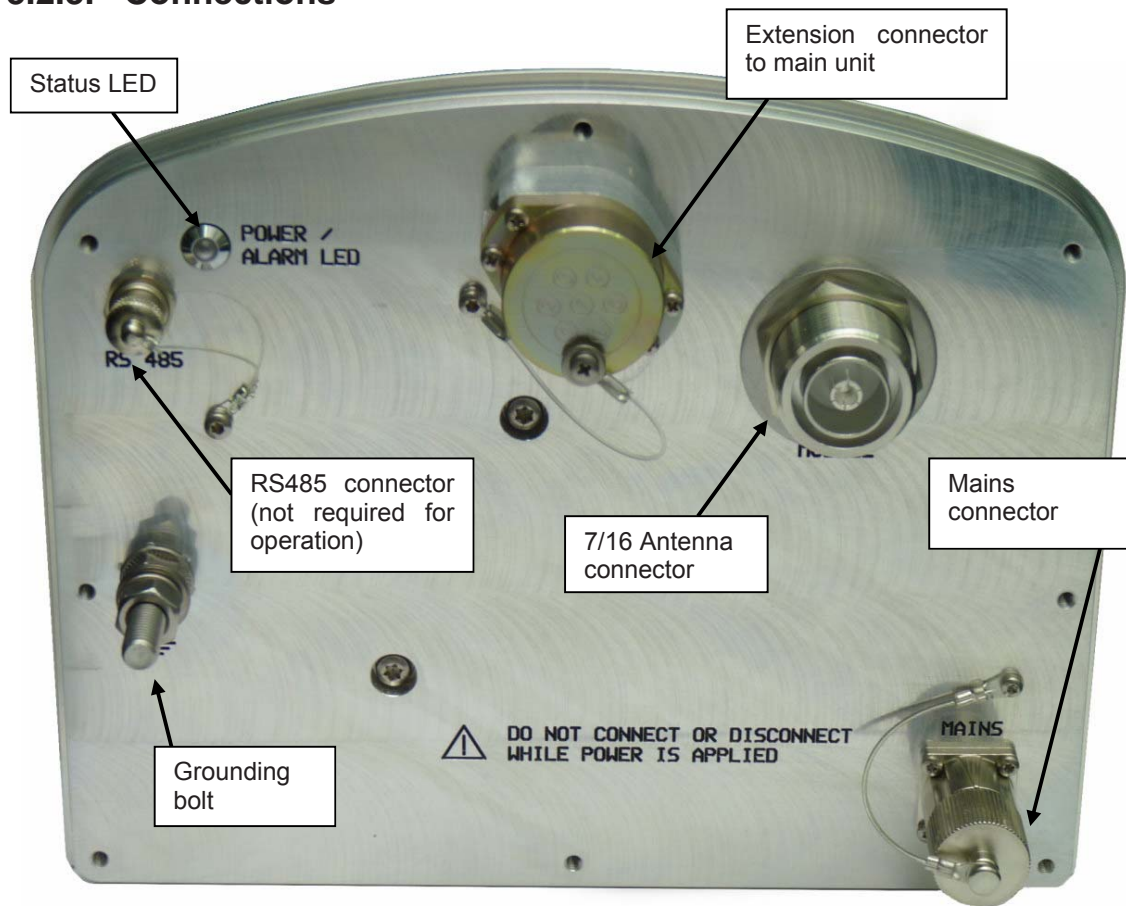

figure 3-9 Connector flange of ION-M7HP/85HP without DC Box
Mains power must be connected at the mains connector of the unit (see *figure 3-9*).
In order to connect the Extension Unit (EU) with the Remote Unit (RU), use the cable bridge that has been ordered separately from the supplier (requirements see chapter 3.1.3 *Mounting Distance between RU and EU*). Connect this cable bridge at the extension connector of the RU with the corresponding connector at the EU (illustrated in *figure 3-9*).